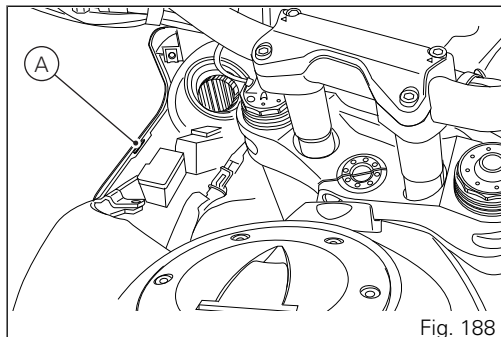

Fig. 188
Reconnect the connector (5) and refit the panels (4) that were removed being careful to insert the tabs (B) into the slots (A) (Fig. 188) made in the headlight fairing.